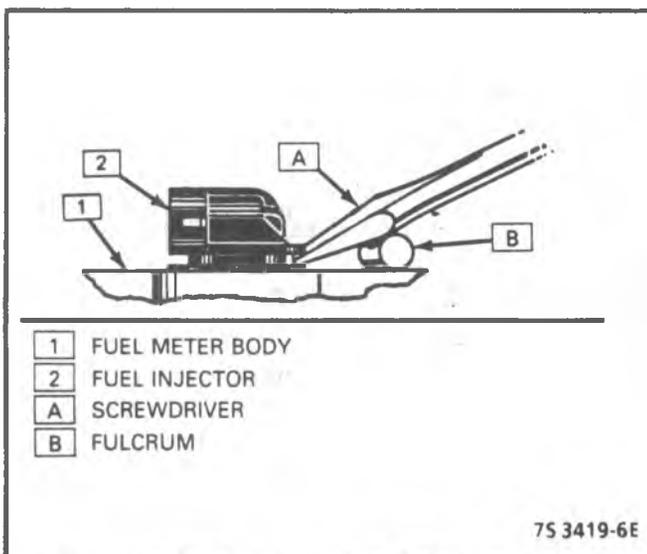

Figure 4-35 - Removing TBI 700 Fuel Injector
- Using a fulcrum, place a screwdriver blade under ridge opposite connector end and carefully pry injector out (see Figure 4-35).